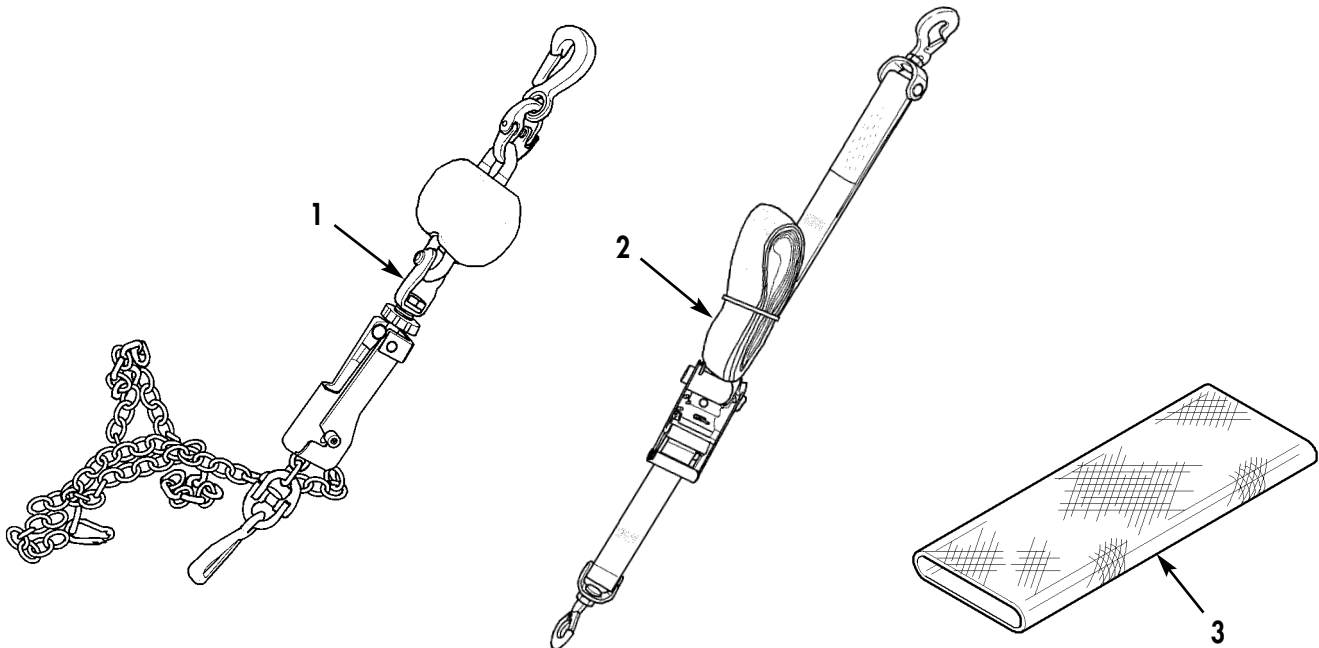

Figure 12. Drum Tiedown Kit.
- b. Perform PMCS on tiedown kit. Ensure there are twelve chain tiedown assemblies (Figure 12, Item 1), ten tiedown straps (Figure 12, Item 2), and sixteen protective nylon sleeves (Figure 12, Item 3). Refer to WP 0016.